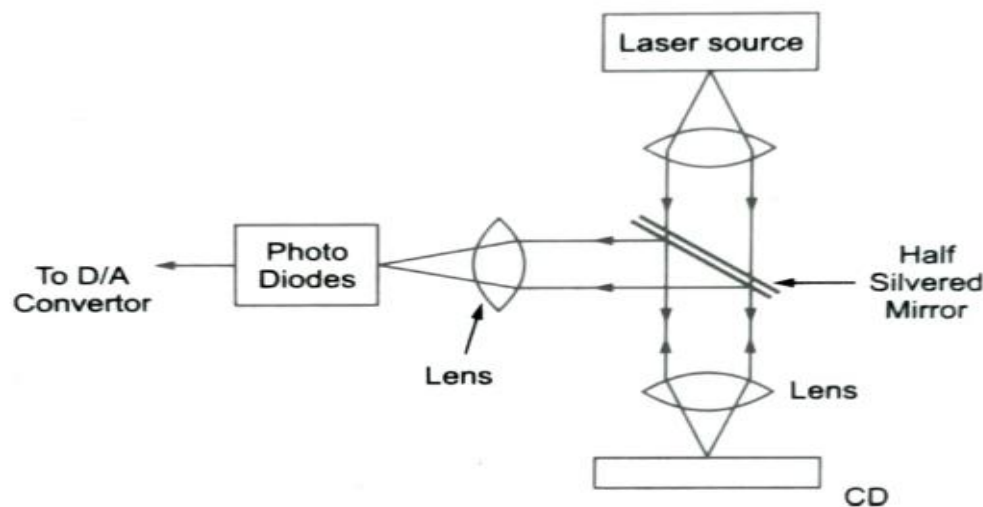

Fig. 10.4: Reflection of Laser Beam in a CD Player
- Fig 10.4 shows the reflection of the laser beam from the CD so as to generate binary signals.